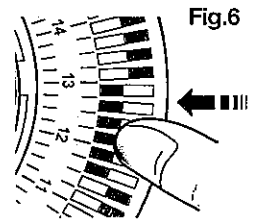

Fig. 6
- Using your finger tip or the tip of a pencil, push in as many segments as necessary around the dial, according to the times you don't require heat - see Fig. 6. Each segment pushed in switches the heater OFF for that part of the hour. All other segments will be 'ON'.